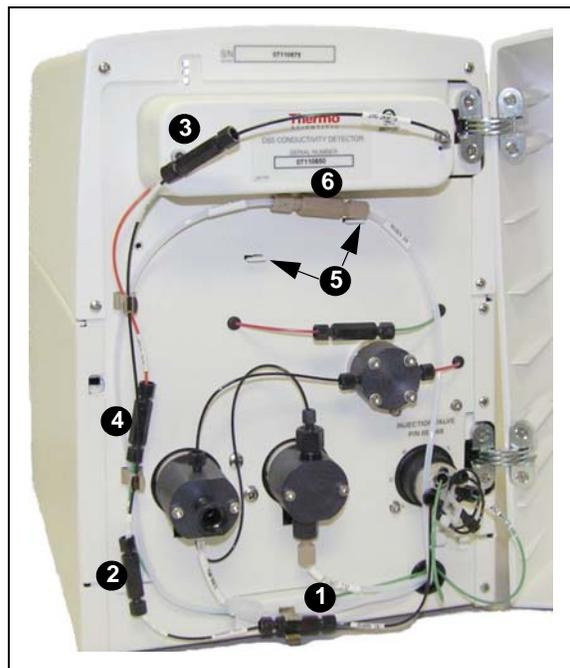

Figure 31. Dionex ICS-900 component panel
1. Disconnect the line labeled **GUARD IN** from the union connecting it to **GUARD OUT** (see Figure 31, item ❶). The other end of **GUARD IN** is connected to port C on the injection valve.
5. Disconnect **COL IN** from the union connecting it to **COL OUT** (see Figure 31, item **2**).
3. Disconnect **ELUENT IN** from the union connecting it to **ELUENT OUT** (see Figure 31, item **3**).
2. Remove the union connecting the green and orange lines labeled **CELL OUT** (see Figure 31, item ④) and connect the backpressure coils.
1. Install the hydrated suppressor onto the brackets located below the conductivity cell (see Figure 31, item ⑤).
2. Remove the union connecting **REGEN IN** and **REGEN OUT** (see Figure 31, item ⑥) and connect these two lines to the corresponding ports on the suppressor.